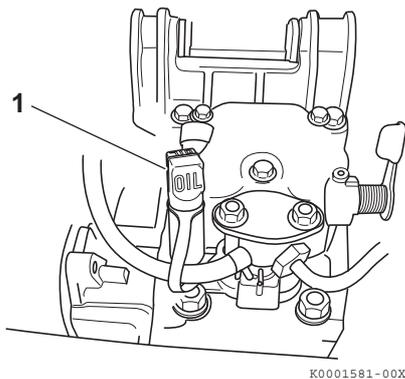

Figure 1
- (a) Remove the oil plug (**Figure 1, (1)**).
- (c) Reinstall the oil plug (**Figure 1, (1)**).